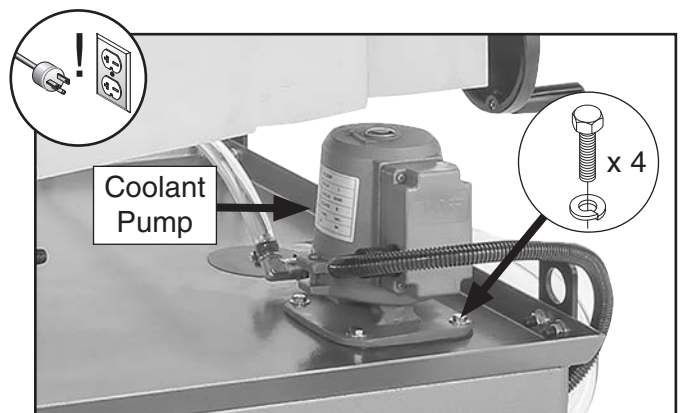

Figure 80. Location of coolant pump and fasteners.
2. Remove (4) hex bolts and lock washers shown in **Figure 80** to lift coolant pump out of base. Place it on its side in coolant pan.